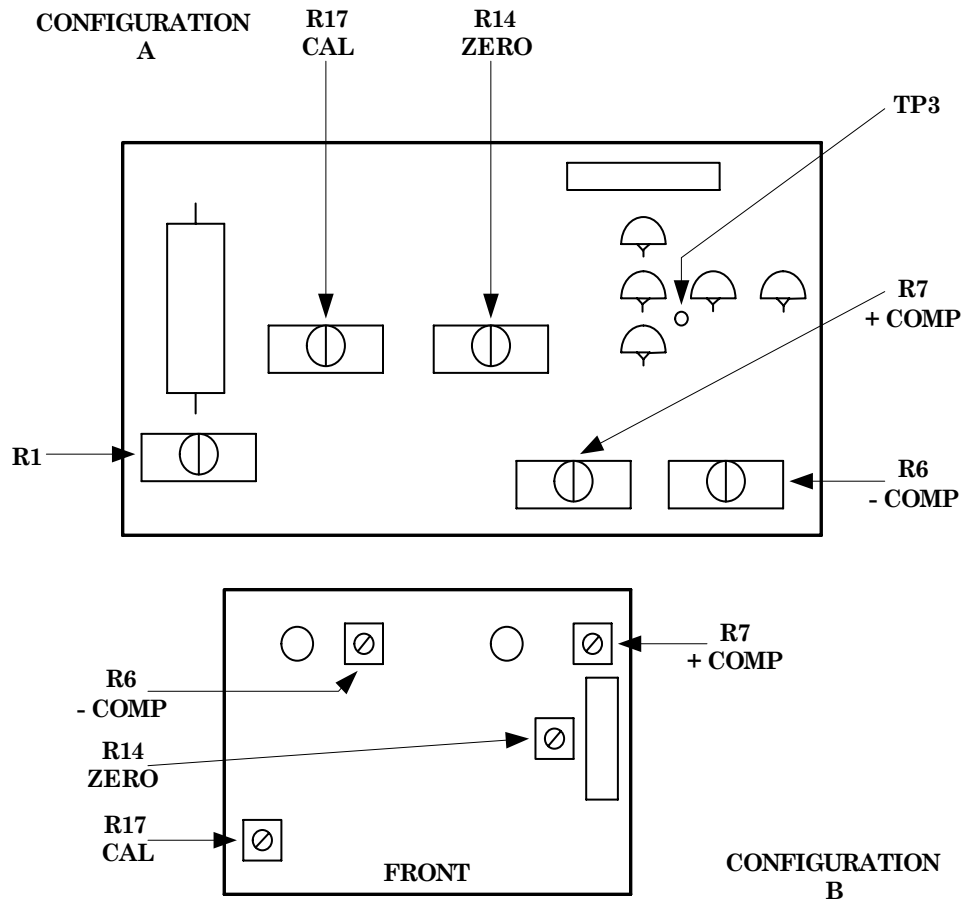

Figure 2. Model 8000A/MAS - top view.
- (2) Set **READ mASEC-ERASE** switch to **ERASE**.
- (3) Set **mASEC mA** switch to **mASEC**. If TI does not indicate 0000, ± 1 digit, adjust R14 ZERO (fig. 2) until TI indicates 0000.
- (4) Using cables of equal length connect calibrator output to TI **MA** and **COMMON** inputs and to frequency counter **A** input.
- (5) Set **mASEC mA** switch to **mA**.
- (6) Set calibrator for an initial 22 mA output and, if necessary, rotate calibrator knob below **EDIT FIELD** pushbutton to adjust calibrator for a TI indication of 22 mA.
- (7) Set calibrator to **STANDBY**.
- (8) Connect digital multimeter to TI TP3 (fig. 2) and **COMMON** terminal.
- (9) Set **mASEC mA** switch to **mASEC**.
- (10) Momentarily set calibrator to **OPERATE**. If digital multimeter does not indicate less than 1 V dc with +22 mA applied to TI, adjust R7 +COMP (fig. 2) until digital multimeter indicates less than 1 V dc.
- (11) Set **mASEC mA** switch to **mA**.
(12) Set calibrator for an initial 17 mA output and, if necessary, rotate calibrator knob below **EDIT FIELD** pushbutton to adjust calibrator for a TI indication of 17 mA.
(13) Set calibrator to **STANDBY** and set **mASEC mA** switch to **mASEC**.
(14) Momentarily set calibrator to **OPERATE**. If digital multimeter does not indicate between -13 and -17 V dc, adjust R7 +COMP (fig. 2) until digital multimeter does indicate between -13 and -17 V dc.
(15) Set calibrator to **STANDBY**, reverse leads on calibrator and repeat (5) through (14) above. If digital multimeter does not indicate less than 1 V dc when -22 mA is applied and between -13 and -17 V dc when -17 mA is applied to TI, adjust R6 -COMP (fig. 2) until both indications are obtained.
(16) Repeat **a** above. If TI is out of tolerance at **a** (15) above, adjust R17 CAL (fig. 2) while toggling calibrator between **OPERATE** and **STANDBY** until TI indicates the same reading in mA as frequency counter indicates in time, ± 2 digits (R).
(2) Set calibrator for 1.9 k Ω . Adjust R1 (fig. 2) until TI indicates actual resistance of calibrator (R).